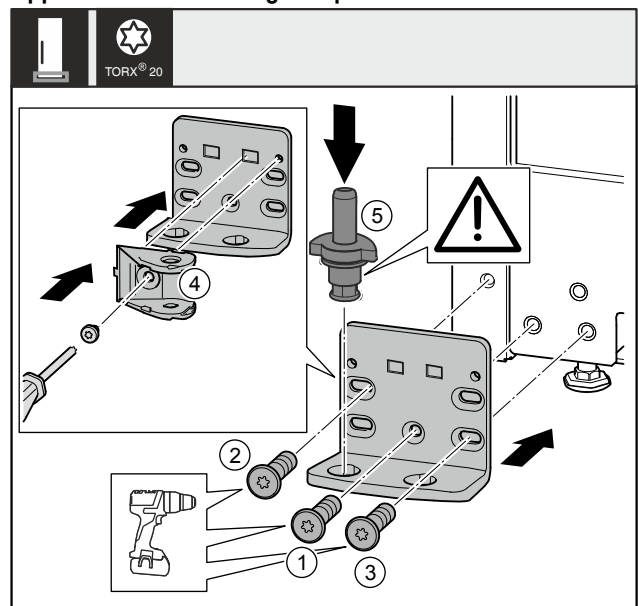

Fig. 37 *
- Place the swap bearing block on the other side and use a screwdriver to screw it on. Start with screw Fig. 37 (1) at the bottom in the middle.*
- Tighten screw Fig. 37 (2) and screw Fig. 37 (3).*
- Turn the closing damper connection Fig. 37 (4) by 180°. Use screwdriver to screw it onto the other side of the swap bearing block.*
- Insert the bearing bolt Fig. 37 (5) completely. Ensure that the latching cam is pointing towards the rear.*